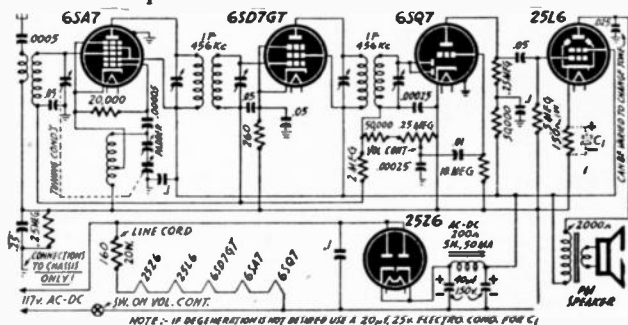

Fig. 102
A. The diagram printed in Fig. 102 incorporates the tubes you desire. Any standard antenna coil may be used if your tuning condenser has a maximum capacity up to 365 $\mu\mu\text{f}$ or 500 $\mu\mu\text{f}$.